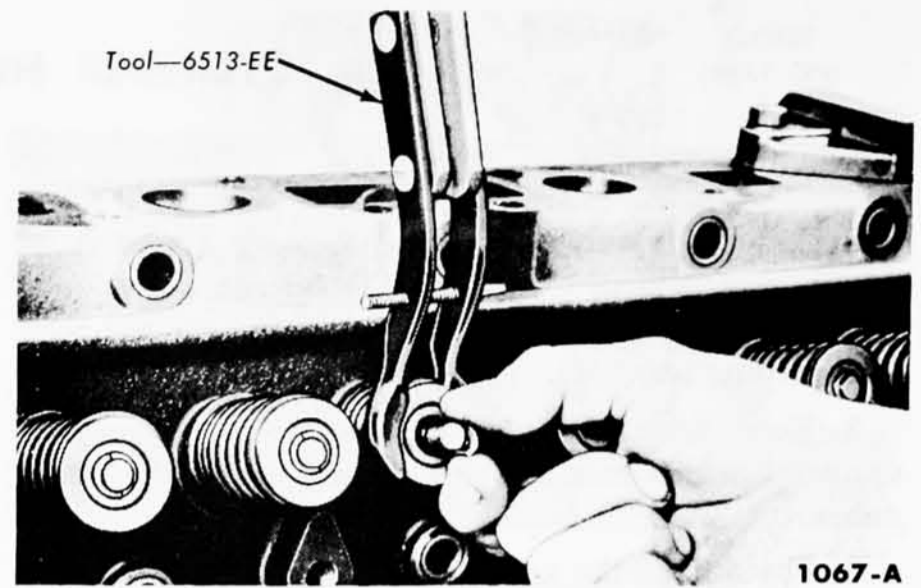

Fig. 16—Valve Stem Lock Removal or Installation
2. Compress the valve springs (Fig. 16), then remove the valve retainer locks and release the spring. Remove the sleeve, spring retainer, spring, stem seal, and valve. Discard the valve stem seals. Identify all valve parts.
2. Install the valve spring, then install the valve spring retainer, and sleeve. Compress the spring, and install the retainer locks (Fig. 16). Measure the valve spring assembled height.